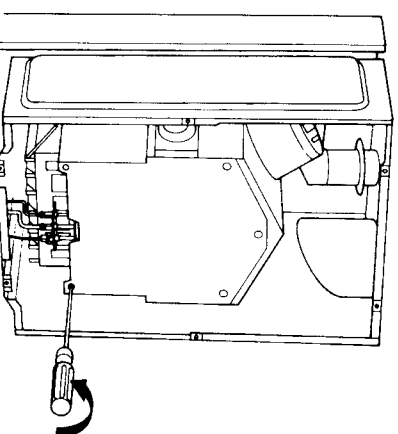

Fig. 23
8.6.3 Remove front of combustion chamber by releasing five screws (fig 23)